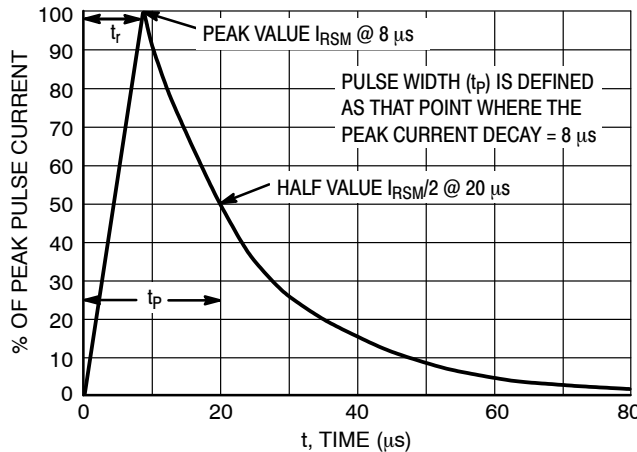

Figure 5. 8 x 20 μs Pulse Waveform
1. Non-repetitive current pulse per Figure 5 (Pin 5 to Pin 2)
- Non-repetitive current pulse per Figure 5 (Pin 5 to Pin 2)
- Surge current waveform per Figure 5.